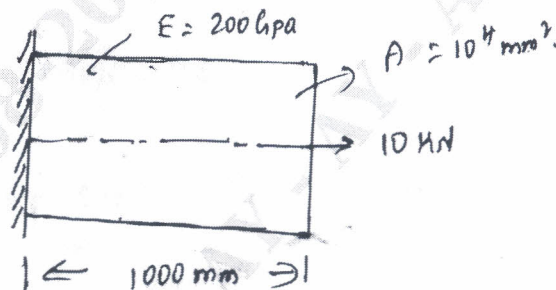

Fig Q5(b)
- b. Fig Q5(b) shows a one dimensional bar subjected to an axial loading. Taking it as single bar element. Determine :